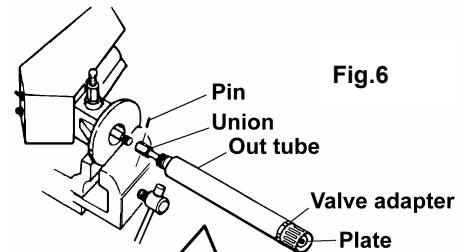

Fig.6
- 4) Fix the pump assembly on vise. (Fig.6)
- 5) Set a spanner on the valve adapter and unscrew it. The out tube can be pulled out from the pump. Then continue to pull out it until touching to the plate, the union that connects to the motor. Pull out the pin and unscrew the union, and the lower pump can be separated from the motor. (Fig. 6)
- 6) Pull out the out tube. If only the valve adapter pulled out, unscrew the nut and remove the plate. Then pull out the out tube and screw the suction tube with pipe wrench (set on notched part of the suction tube). Pull out the pin and unscrew the union, and the lower pump can be separated from the motor. (Fig. 6, 7)
(Fig. 6)